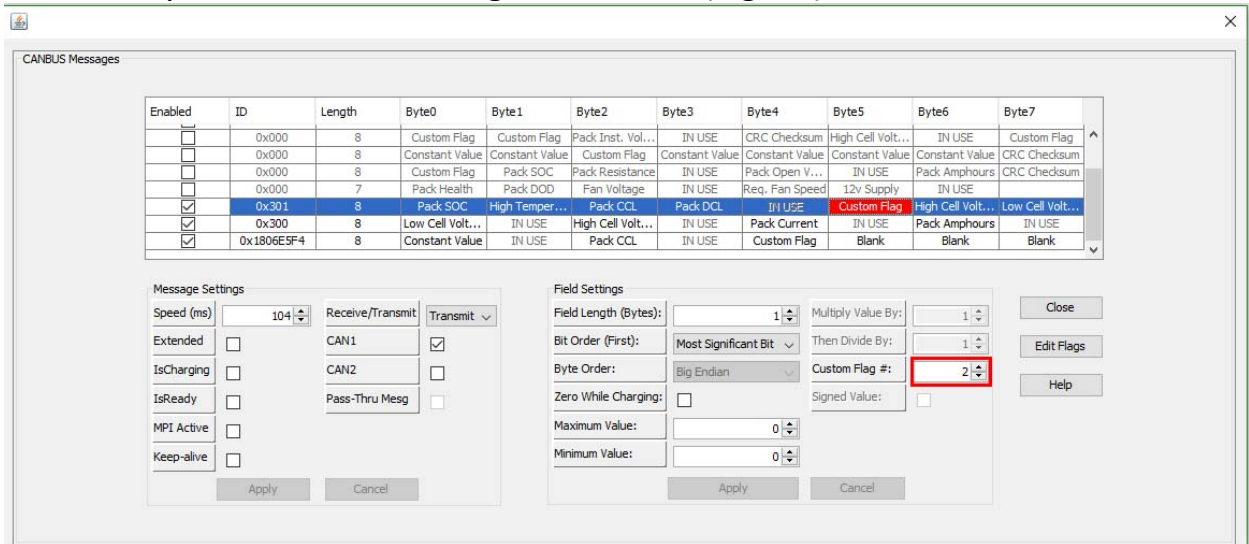

Fig. 34
18. Verify that the Custom Flag # is set to 2. (Fig. 34)